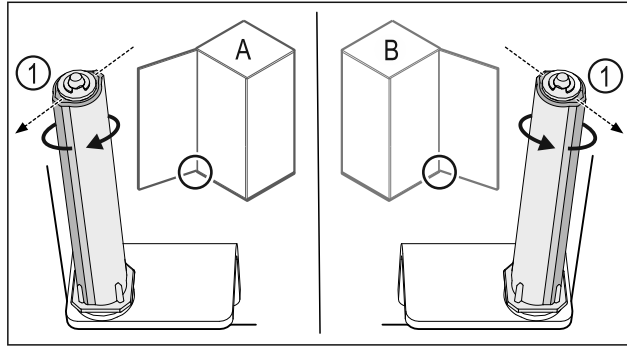

Fig. 48 Left stop (A) / right stop (B)
- Turn the closing system against the resistance until the bridge of the closing system Fig. 48 (1) shows outward.